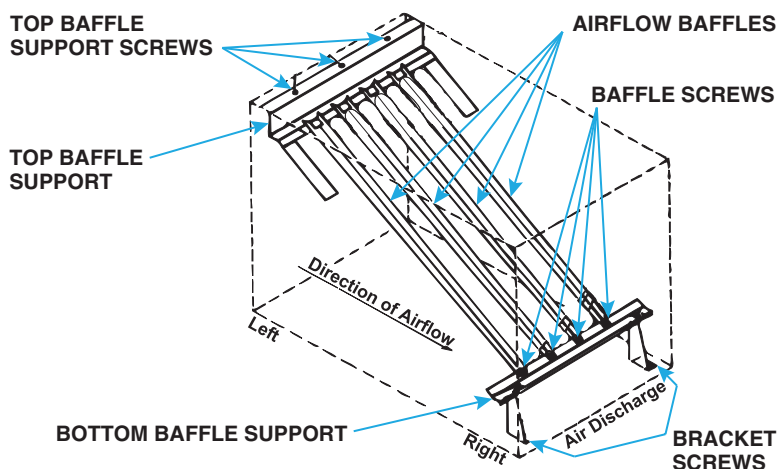

Figure 30. Airflow Baffles
- b. For standard (not high CFM) furnaces, remove baffle screws (see Figure 30) and lift each airflow baffle slightly and slide forward. Remove all baffles from heat exchanger.